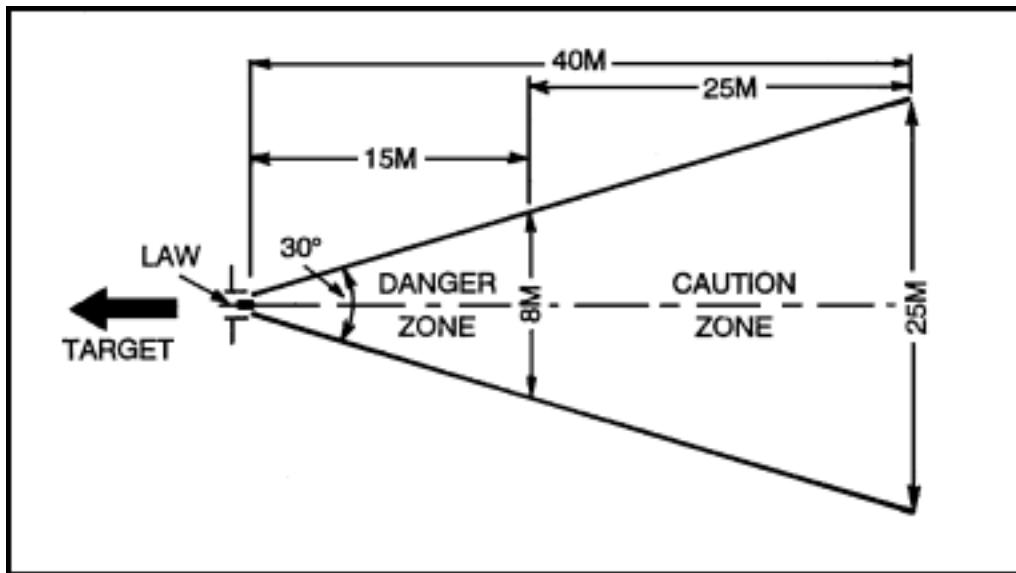

Figure A-1. M72-series LAW backblast area.
(1) **M72-series LAW.** This is an open-chambered weapon, so it has no recoil. The launcher's total backblast area extends 40 meters (44 yards) to the rear (Figure A-1) and is divided into two zones. During training, both should be marked off limits: